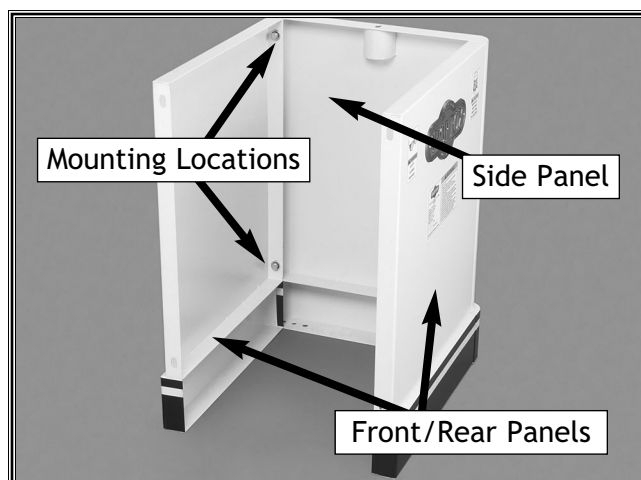

Figure 4. Cabinet assembly.
1. Assemble the cabinet panels together as shown in **Figure 4** with the supplied $\frac{5}{16}$ "-18 x $\frac{3}{4}$ " hex bolts, $\frac{5}{16}$ " flat washers, $\frac{5}{16}$ " lock washers and $\frac{5}{16}$ " hex nuts.